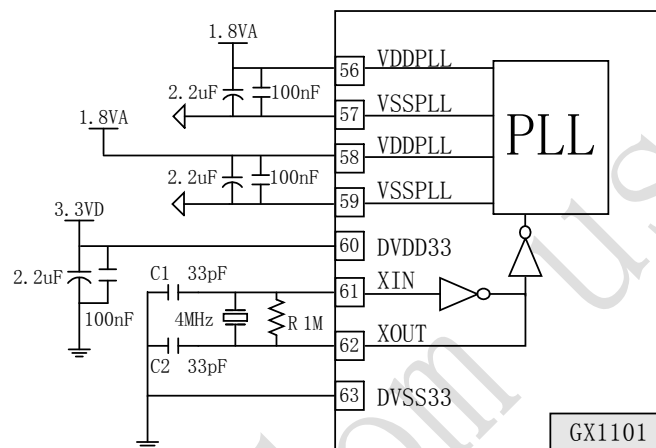

Figure 13 Crystal and PLL
- 2, In Figure13, C1 and C2 are determined by the crystal's load capacitance. We suggest users to adjust their values slightly to get a precise enough oscillation frequency.